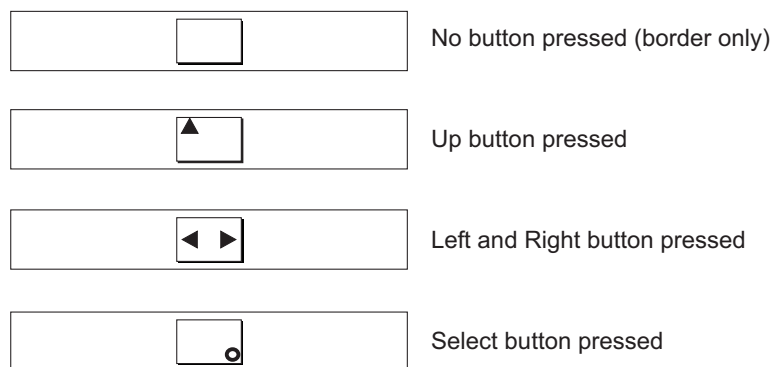

Figure 100. Front panel display when push buttons are pressed
3. Press the up, down, left, and right buttons to verify that they are working. Figure 100 shows four examples of what the front panel should display when you press the buttons. When you have finished testing the buttons, press and hold the select button for five seconds in order to exit the test.